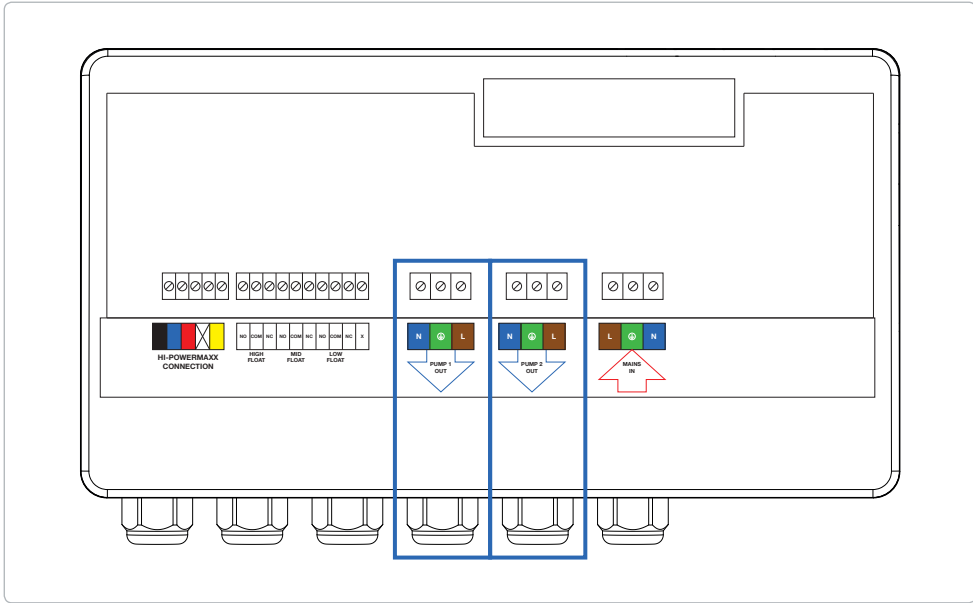

Figure 3. Connecting pump/s
- 3. Using the cable glands previously installed, feed the pump cable/s through the glands and connect to the corresponding terminal blocks on the main PCB (figure 3).